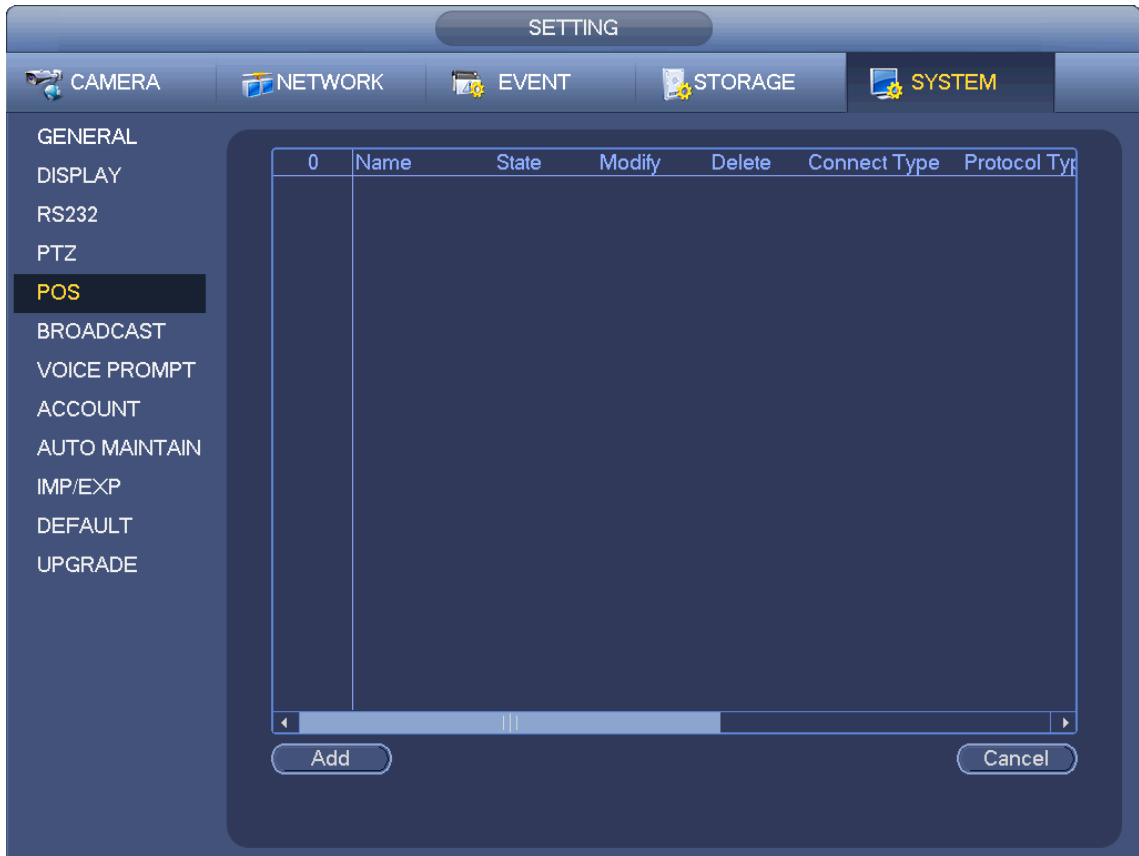

Figure 4-190
Step 1 From main menu>Setting>System>POS, the interface is shown as below. See Figure 4-190.